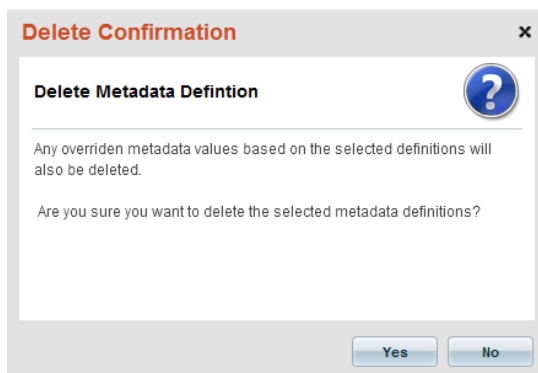

FIG. 374 Delete Confirmation dialog - Metadata Definition
3. Click the **Delete** button. The system will prompt you to verify this action before the selected metadata definition is deleted, via the *Delete Confirmation* dialog (FIG. 374):